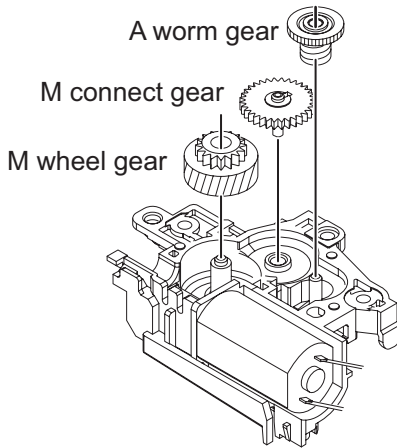

Fig.16
- (2) Remove the A worm gear, M connect gear and M wheel gear by sequentially. (See Fig.16)